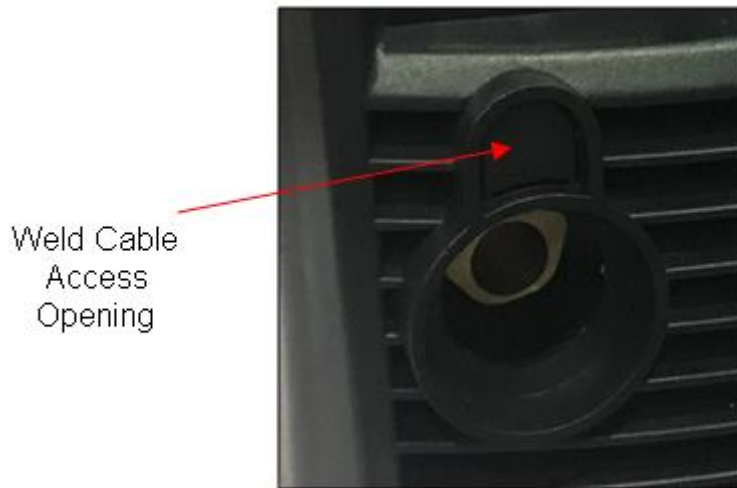

Figure 10
- Carefully slide the gas connector and the weld power connection through the weld cable access opening in the front of the machine (Figure 10).